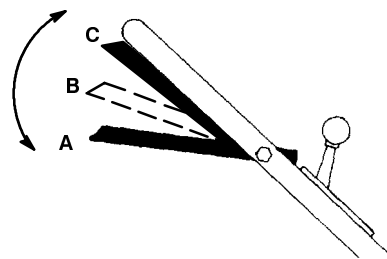

Figure 11
1. Have the blade control bail in the A position (Fig. 11).
2. Slide the blade control bail to the right and raise it to the B position to engage the blade (Fig. 11).
3. Squeeze the blade control bail against the handle to the C position to drive (Fig. 11).